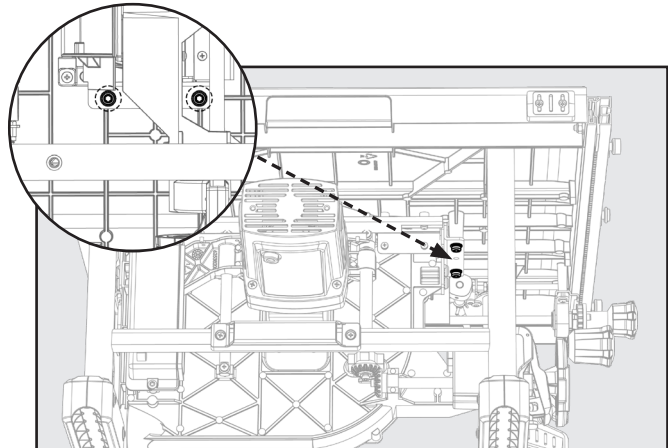

FIGURE 24
3. Using a 5mm Hex Wrench loosen the front trunnion bolts 1/2 turn, found below the table top. See Figure 24.